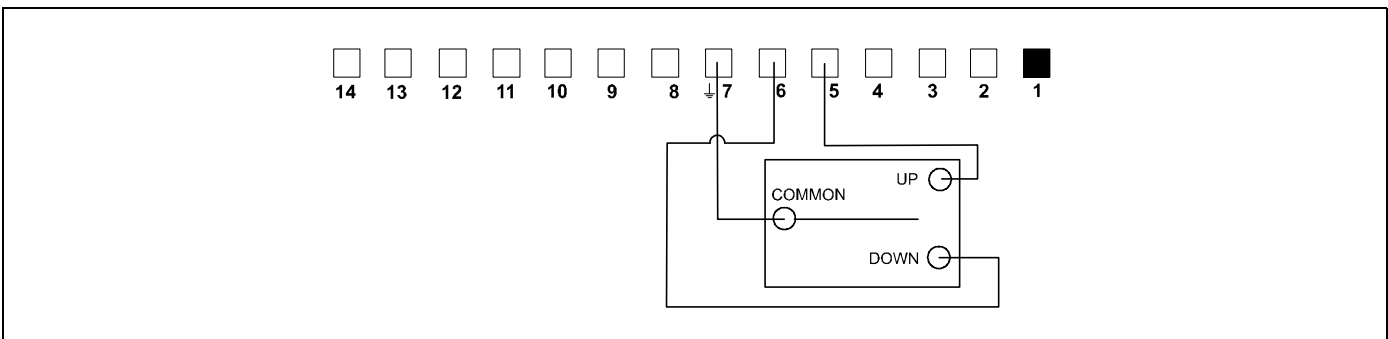

Figure 32
NOTE: If operation of the mount is required at a greater distance than remote control will allow, the mount can be controlled through a hardwired switch or similar device. See **Dry Contact Closures** section and (See Figure 32) .
1. Connect the common wire from your switch to terminal 7. (See Figure 32)